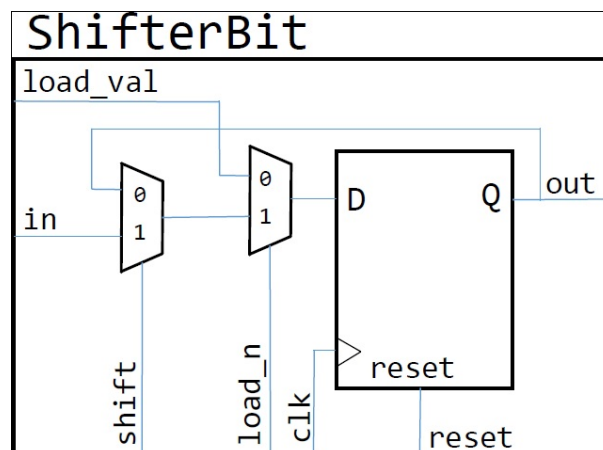
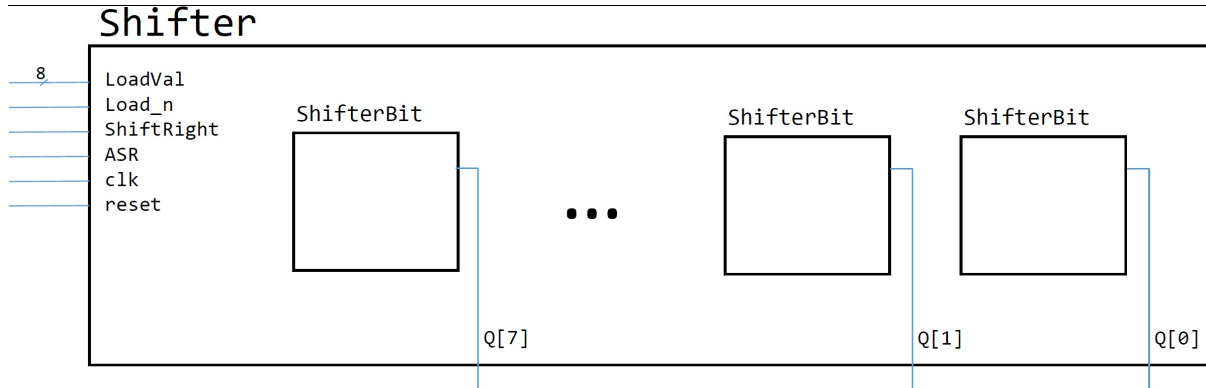

Figure 4: Single-bit shift-register
Figure 5: 8-bit shift-register of Part III. **None** of internal connections are shown here.
A shift register is a sequence of flip-flops that move their contents one flip-flop down the row on each rising clock edge. Figure 4 shows one bit of this shift-register. It contains a positive **edge-triggered flip-flop** to store the ShifterBit's value and two multiplexers that determine the source of the ShifterBit's contents.
To create an 8-bit shift-register, you will use eight instances of the circuit in Figure 4 to design your 8-bit shift-register with optional arithmetic shift and **parallel load** as shown in Figure 5.
3. The *ShiftRight* input which feeds into the *shift* input of all eight instances of the ShifterBit circuit in Figure 4.
For the leftmost ShifterBit, you should design a circuit that will perform sign-extension when the signal *ASR* is high (arithmetic right shift) or load zeros if *ASR* is low (logic right shift). This special circuit is not shown in Figure 5.
1. What is the behaviour of the 8-bit shift register shown in Figure 5 when $Load_n = 1$ and $ShiftRight = 0$? Briefly explain in your prelab. **(PRELAB)**
2. Draw a schematic for the 8-bit shift register shown in Figure 5 including the necessary connections. Your schematic should contain eight instances of the one-bit shifter (i.e. the ShifterBit) shown in Figure 4 and all the wiring required to implement the desired behaviour. Label the signals on your schematic with the same names you will use in your Logisim circuit. **(PRELAB)**
3. Starting with the built-in positive edge-triggered D flip-flop found at *Memory > D Flip Flop*, use this D flip-flop with instances of the *mux2to1* module from Lab 2 to build the one-bit shifter shown in Figure 4. **(PRELAB)**